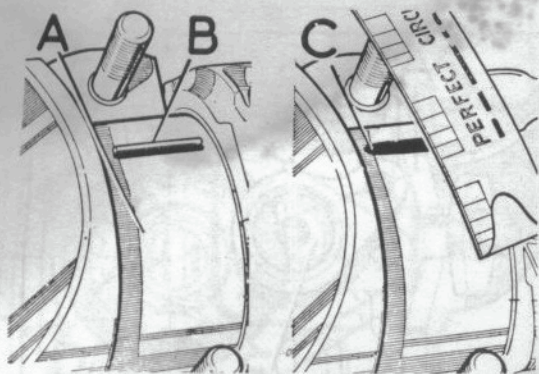

FIG 1:31 Checking big-end clearance, 2½ litre
Fit the chainwheel and chain as shown by FIG 1:28 ensuring that there is no slack on the driving
Key to Fig 1:31
- 7 Turn the engine in the direction of rotation until the TDC mark on the flywheel or crankshaft pulley is opposite the pointer with both valves of No. 1 cylinder closed. Insert the distributor drive shaft and gear so that the short drive shaft eventually is positioned as shown by FIG 1:29. Fit the locating bolt.